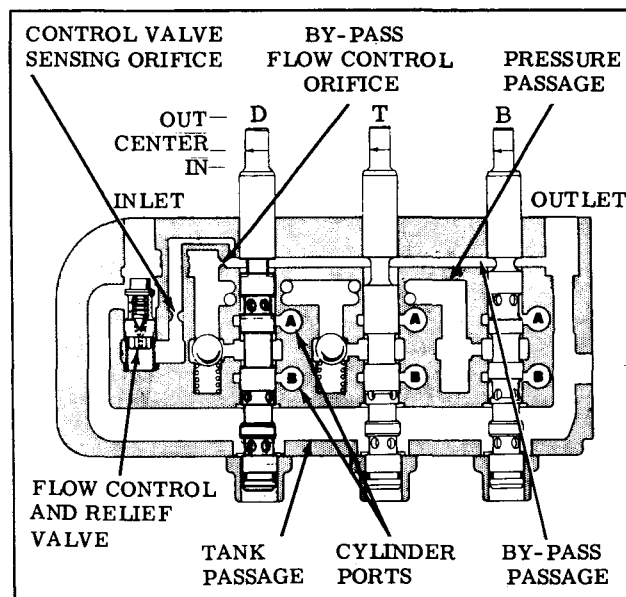
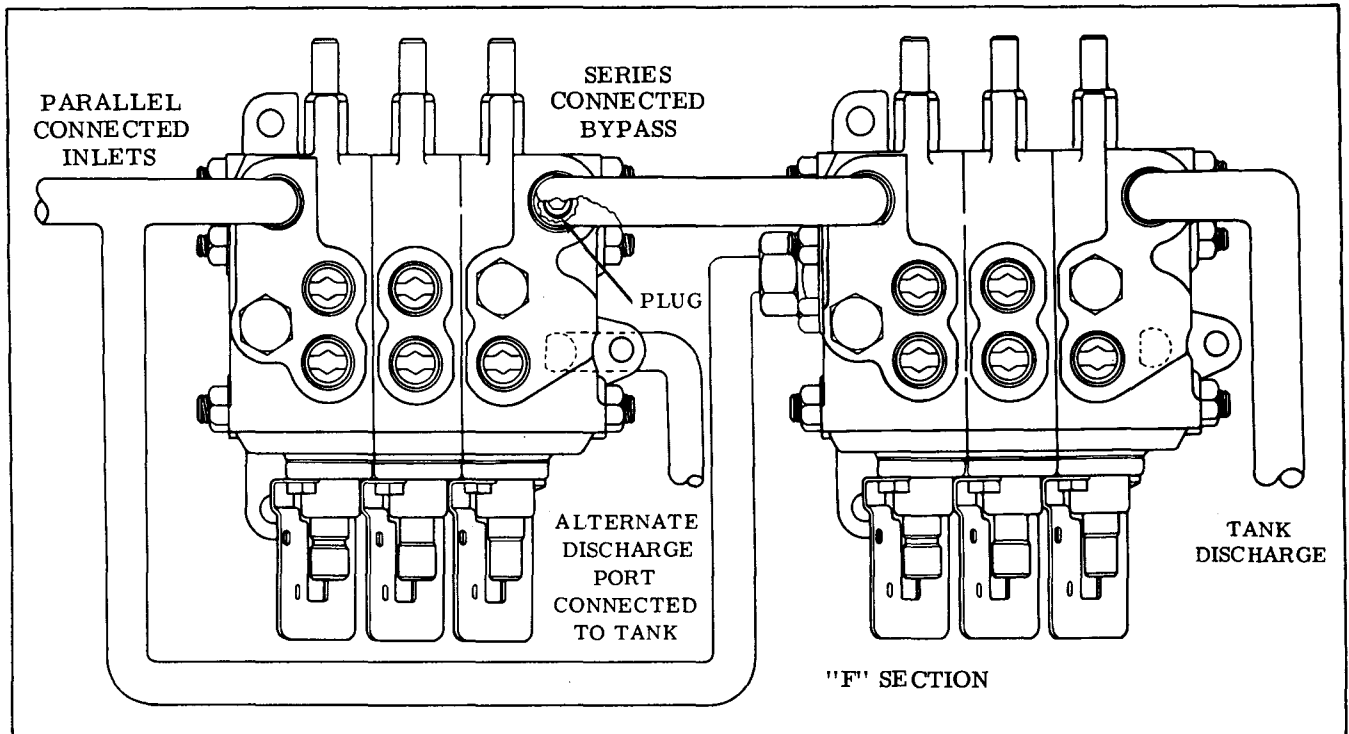

Figure 2
Figure 10
Figure 2 is a schematic illustration of a three section valve, showing the inlet and outlet ports and the by-pass, pressure and tank passages. The pressure passage is used to carry fluid to the cylinder ports when the spools are shifted. The by-pass passage permits flow directly to the outlet when the spools are not being operated. The tank passage also carries fluid to the outlet; either return flow from the cylinder ports or fluid diverted past the flow control and relief valve.
(a) Flow Control - Figure 2 shows the valve operation in neutral with flow in excess of seven gpm. Flow across the by-pass orifice results in a pressure drop. The decreased pressure is sensed at the spring end of the valve sub-assembly through a sensing orifice. The slightly higher pressure at the other end of the valve permits it to shift down, diverting excess flow to the reservoir passage. With flow less than seven gpm, there would be negligible pressure drop across the by-pass orifice. Then the control valve would be held closed by the large spring and all flow would be through the by-pass passage.
7. Tandem Operation - Tandem operation permits operation of two banks of valves from the same pumping source. An internal plug in the outlet section of the first bank (Figure 10) separates the by-pass passage from the tank passage. Cylinder exhaust oil is returned to tank via the alternate discharge port, and by-pass oil is directed out the primary discharge port to the by-pass port of the bank.
In Figure 10, either bank can be operated separately or both simultaneously. This is possible because of the tandem by-pass connection from the inlet connection of the first bank to the F inlet connection of the second bank. If neither bank is operating, part of the fluid flows through both by-pass passages directly to reservoir. The balance is diverted through the tank passage of the first section as shown in Figure 2.
1. Port connections for tandem series operation are shown in Figure 10.
2. The outlet section of the first bank must be an "E" section which is equipped with a plug (see Figure 10) to block the primary discharge port from the reservoir. The alternate discharge port must be connected to the reservoir.